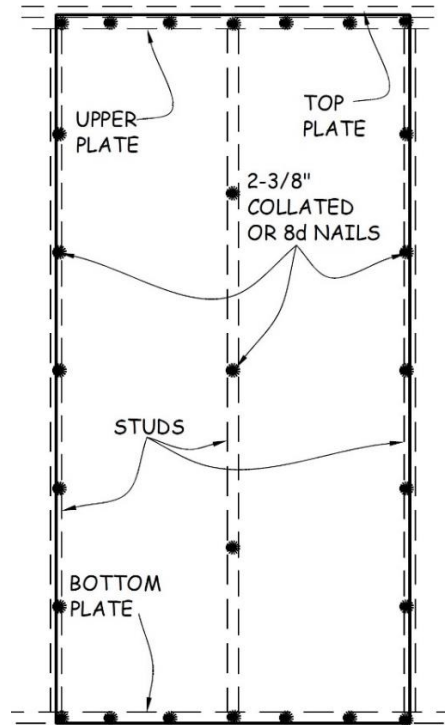

Figure 5-1. Non-Wind Bracing OSB Nailing Pattern.
or 8d nails following the Non-Wind Bracing Nailing Pattern: seven equally spaced nails down each side stud, five down the middle stud, and two between each stud in the upper and bottom plates (see Figure 5-1). After all the OSB sheets are fully nailed, pull the nails that are securing the upper plate of the wall to the deck.
11. Permanently fasten any tacked, non-wind bracing OSB with 2³/₈" collated nails or 8d nails into each stud and the upper and bottom plate following the Non-Wind Bracing OSB Nailing Pattern described in Section 5.3.4 and shown in Figure 5-1.